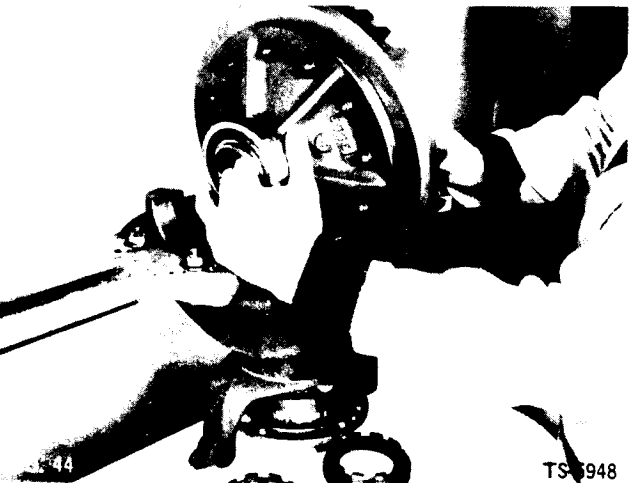

FIG. 44
6. Remove two adjusting nuts and lift ring gear and case assembly from differential (Fig. 44).